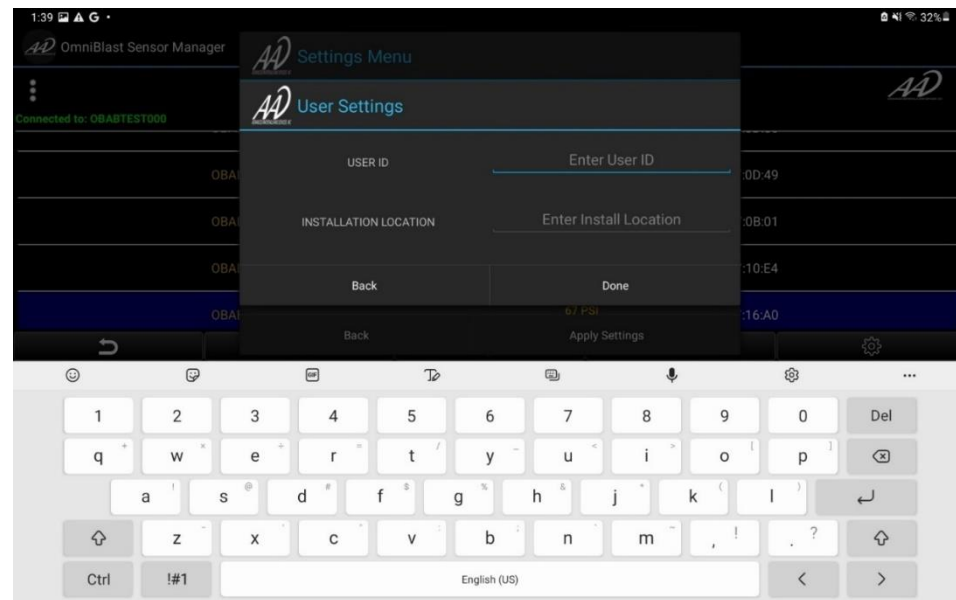

Figure 13. User settings that can be applied.
- f. **User Settings:** Selecting User ID in the settings menu will show the user settings where one can assign an ID and installation location to a sensor. **(Figure 13).**